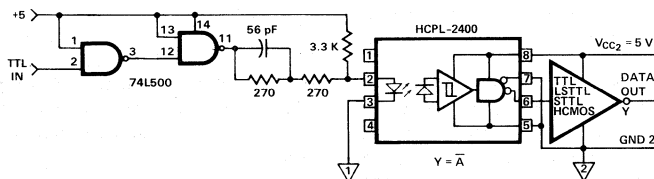

Figure 13. Recommended 20 Mbd HCPL-2400/11 Interface Circuit
- This specification simulates the worst case operating conditions of the HCPL-2400/11 over the recommended operating temperature and VCC range with the suggested applications circuit of Figure 13.
A recommended LED drive circuit is shown in Figure 13. This circuit utilizes several techniques to minimize the total pulse-width distortion at the output of the optocoupler. By using two inverting TTL gates connected in series, the inherent pulse-width distortion of each gate cancels the distortion of the other gate. For best results, the two series-connected gates should be from the same package.
The circuit in Figure 13 also uses techniques known as prebias and peaking to enhance the performance of the optocoupler LED. Prebias is a small forward voltage applied to the LED when the LED is off. This small prebias voltage partially charges the junction capacitance of the LED, allowing the LED to turn on more quickly. The speed of the LED is further increased by applying momentary current peaks to the LED during the turn-on and turn-off transitions of the drive current. These peak currents help